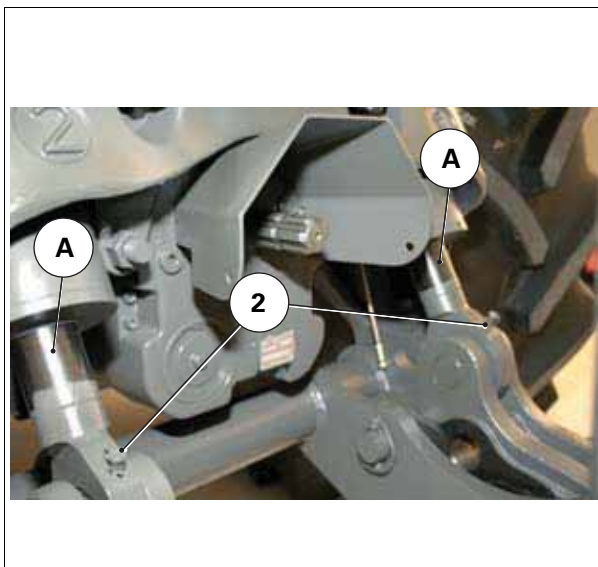

Fig. 4.
IMPORTANT: During extended periods of storage, ram rods (A) fig. 4 should not come into contact with the air (risk of corrosion and subsequent leakage). Rams should be fully retracted or greased.